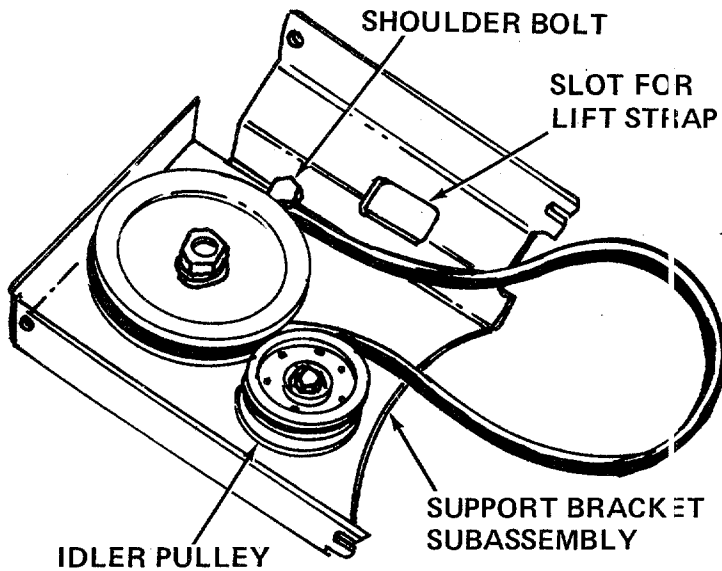

FIGURE 9
11. Figure 9 illustrates the supporting bracket subassembly. Make sure the belt is inside the shoulder bolt and idler as shown.